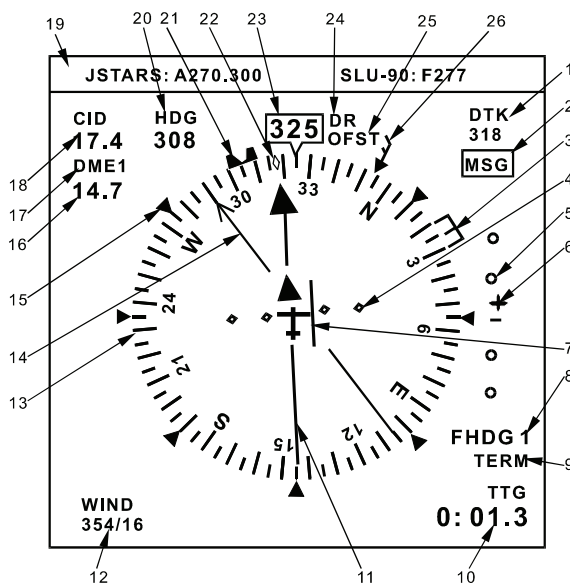

Figure 3B-55. HSI Display
(2) *Horizontal Situation Displays (HSI).* In order to display horizontal situational data on the EHSI, the FMS source must be selected by the pilot. The EHSI data includes the HSI course arrow (desired track), TO / FROM pointer, and bearing pointer to the FMS-800 outputs. These outputs always relate to the flight plan active waypoint or pattern turn point. Refer to Figure 3B-55 and Table 3B-41. If the EHSI distance interface is compatible and aircraft switching is installed, the distance readout will also show great circle distance to the active waypoint.